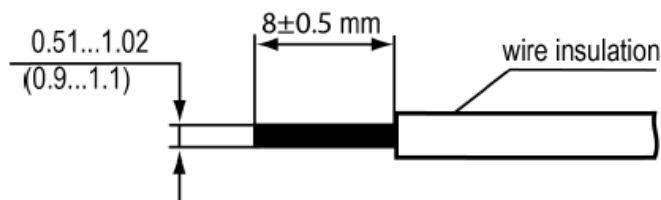

Fig. 4 Wire preparation
- The ends of the wires should be stripped of insulation by 8 ± 0.5 mm (see Fig. 4) and, if necessary, tinned.